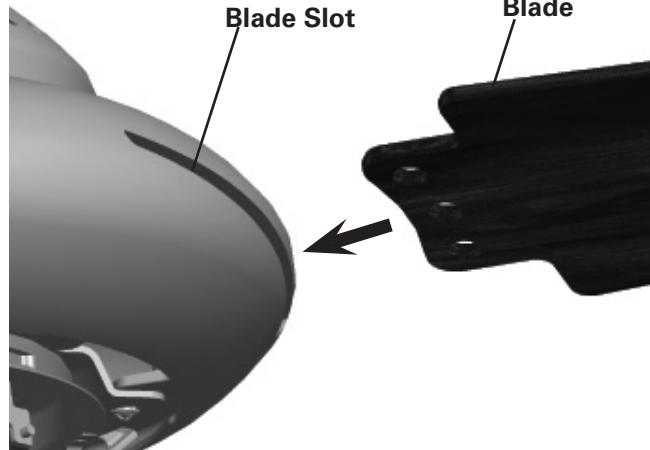

FIGURE 1.
Step 1. Locate the blade slot on the side of the fan as shown in Figure 1., and insert the blade into the slot.